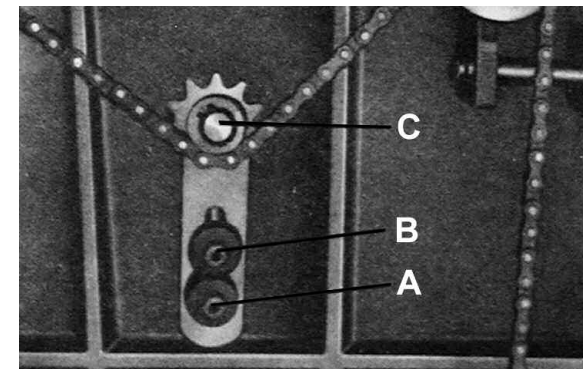
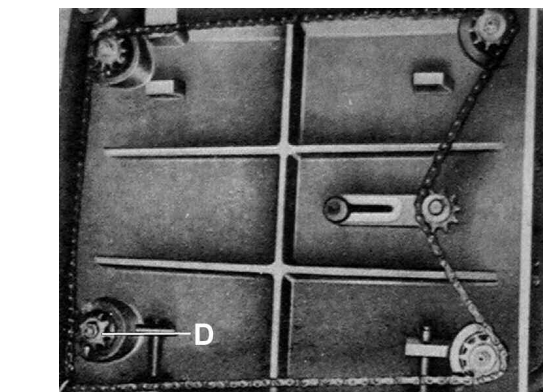

FIGURE 19
FIGURE 20
2. Tilt planer on its side to expose the underside of the base as shown in Fig. 19.
3. Remove cap screw (A) and loosen cap screw (B) Fig.19, these two cap screws will allow you to move the idler sprocket assembly (C) far enough to release tension on the chain as shown in Fig.20.
4. Remove chain from the sprocket from the corner which needs adjusting. Fig.20 shows the chain removed from the sprocket (D).
5. Turn sprocket (D) by hand to bring that corner into adjustment with the other three corners.